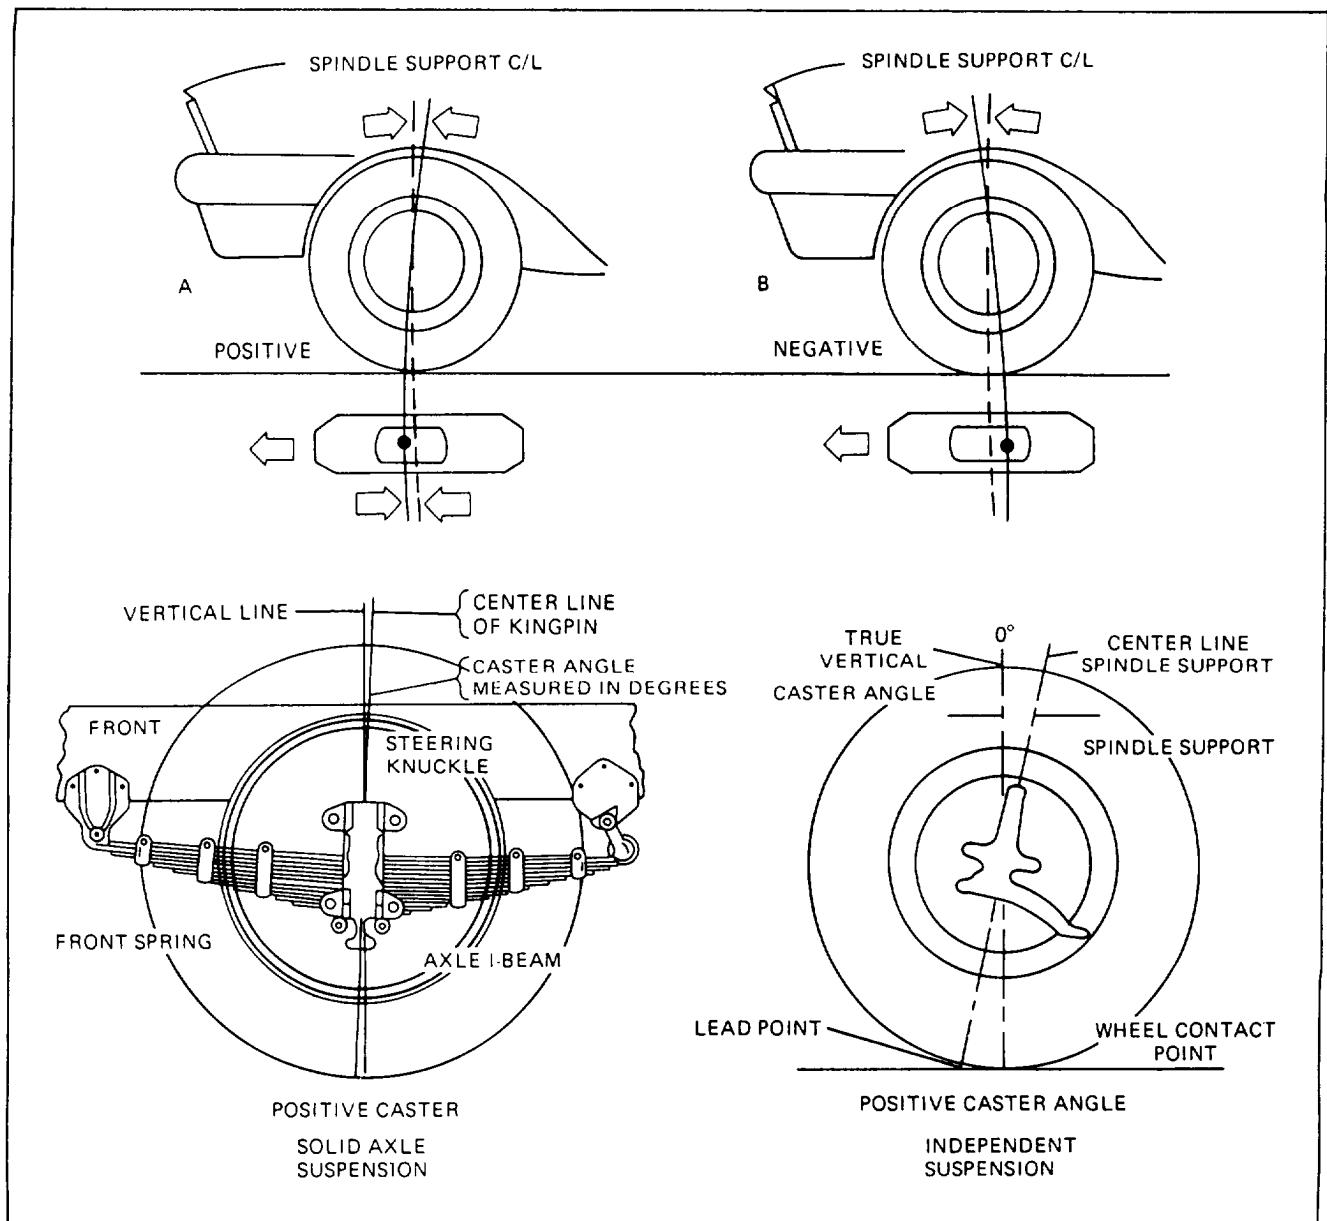

Figure 12-2.—Caster angle.
2. **CASTER ANGLE.** When viewed from the side of the wheel, the caster angle is the degree to which the kingpin or ball joint tilts forward or rearward in relation to the frame (fig. 12-2). Like the camber angle, the caster angle is also measured in degrees. It is shown by a line drawn straight up and down, as in figure 12-2, and then a second line drawn through the center of the kingpin or pivot points. The caster angle is the angle formed at the point where the two lines cross, as viewed from the side of the vehicle.